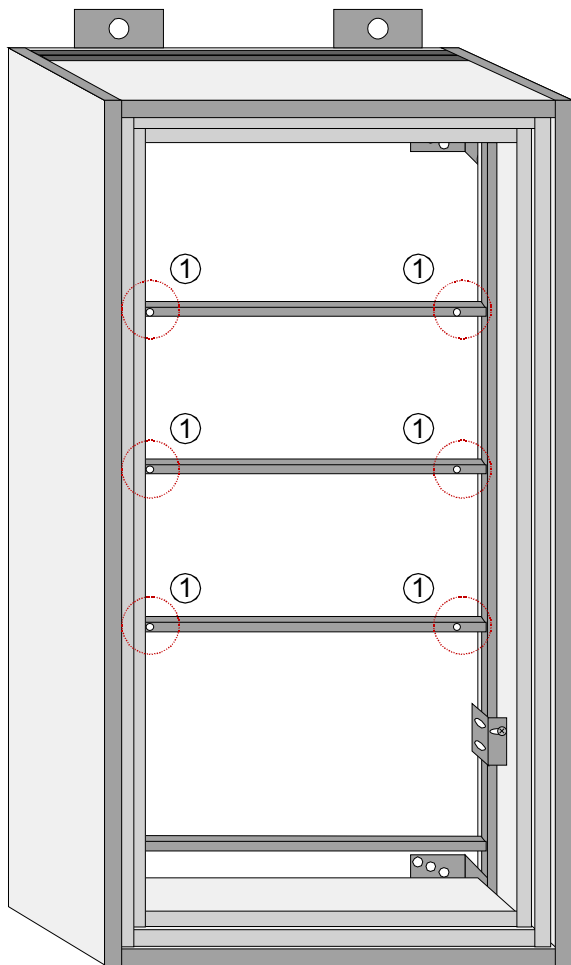

Fig. 125: Installation example for the BMZ IQ8Control M
2. Remove the printer by releasing the six screws ①.
3. Insert new printer in the mounting frame and fit screws ①.
4. Connect printer ④ (Ribbon cable and +12 V DC power supply) (ref. next Page Fig. 125)
6. Release the inserted acrylic plastic sheet ② at clampers and insert the new with the blue pad ③, for covering the paper run.